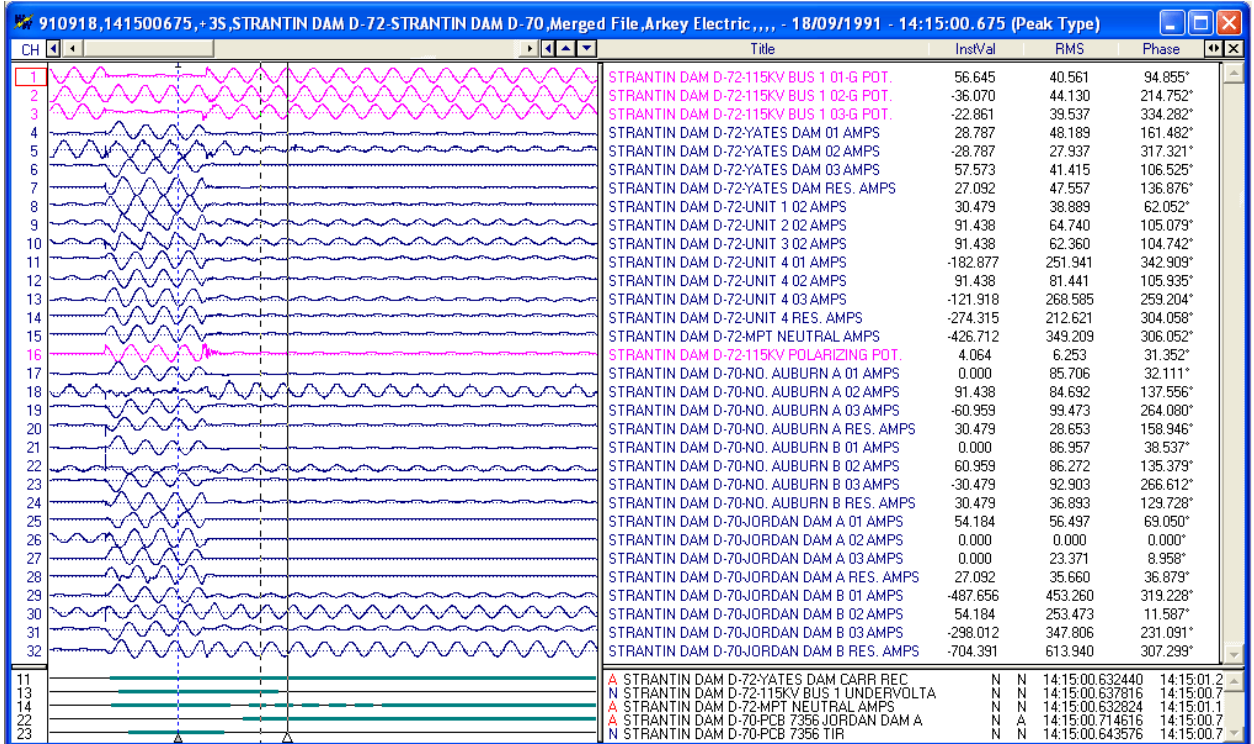

Figure 1.24 Merge Waveform Files By Time
- By Time: Merge channel samples if they have a common time segment. The reference time is from the file with the latest start date and time. The file with the least amount of samples determines the length of the new merged file. Refer to Figure 1.24.